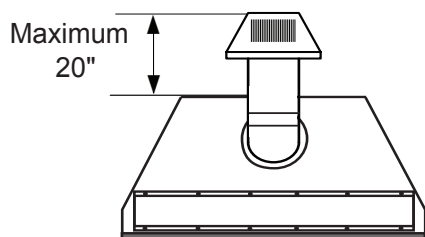
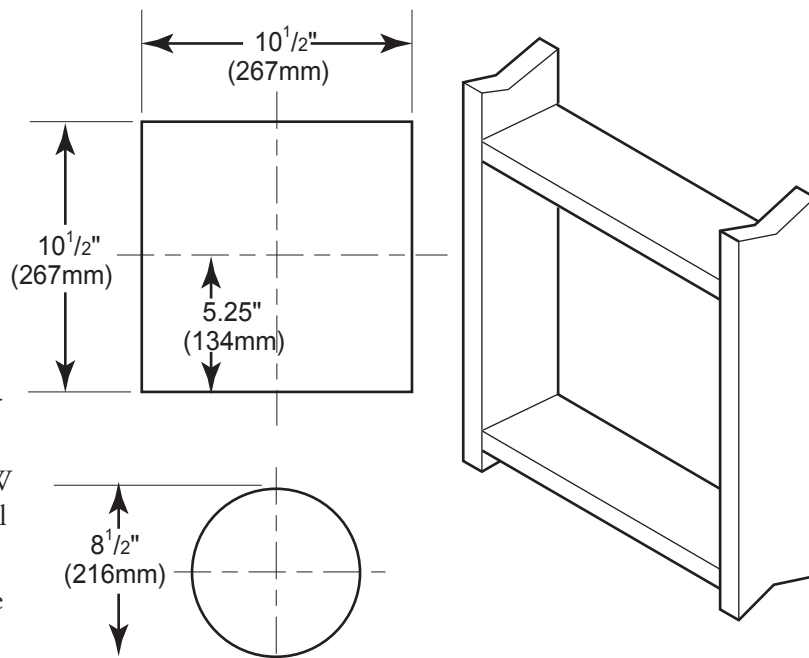

Figure 11 - Rear Vent Application, Maximum Horizontal Distance with two foot minimum rise
Figure 12 - Vent Opening Requirements
The maximum horizontal distance between the rear of the appliance and the outside of termination is 20" (508 mm). See *Figure 11*.
1. Locate and cut the vent opening in the wall. For combustible walls first frame in opening. See *Figure 11*.
Combustible Walls: Cut a 10 $\frac{1}{2}$ "H x 10 $\frac{1}{2}$ " W (267mm x 267mm) hole through the exterior wall and frame as shown. See *Figure 12*.
3. Attach vent pipe assembly to the fireplace. Set fireplace in front of its permanent location to insure minimum clearances. Mark the wall for a 10 $\frac{1}{2}$ "H x 10 $\frac{1}{2}$ "W (241mm x 241mm) square hole (for noncombustible material such as masonry block or concrete, a 8 $\frac{1}{2}$ " [216mm] diameter hole is acceptable). See *Figure 11*. The center of the hole should line up with the center line of the horizontal rigid vent pipe end. Be sure to allow for minimum rise. Cut a 10-1/2"x10-1/2" (267mm X 267mm) square hole through combustible exterior wall (8 $\frac{1}{2}$ " [216mm] diameter hole if noncombustible). Frame as necessary. Allow $\frac{1}{4}$ " minimum rise per foot. See *Figure 12*.
1. Establish vent hole through the wall. *See Figure 12, page 17.*